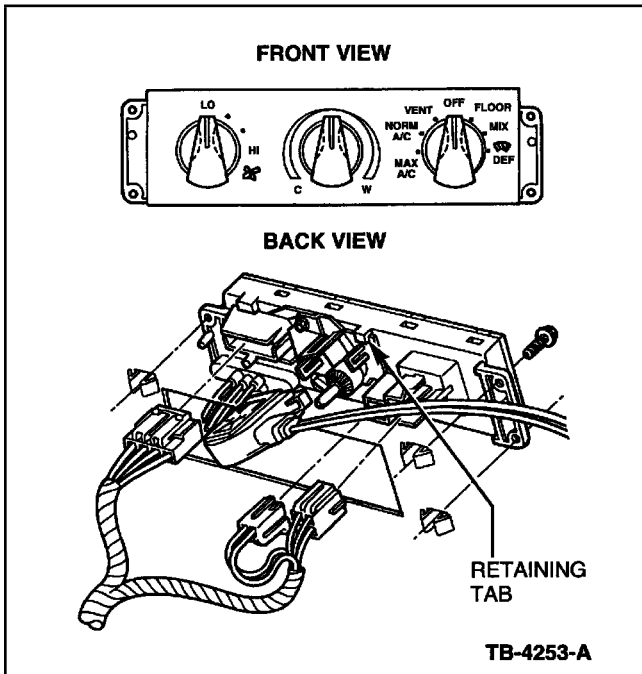

Figure 3 - Article 96-13-7
2. At the small end of the cable (control head), remove the temperature control bracket from the cable by releasing the three (3) snaps using Tool T94P-18532-A or a thin blade screwdriver to allow the cable to be pushed back through the instrument panel toward the control head. Refer to Figure 3.
8. Push the temperature control bracket onto the control assembly and turn it to catch under the retaining tab. Secure with the new screw previously saved. Refer to Figure 3.
10. Push the cable head onto the temperature control bracket (make sure gear pilot centering hole is lined up correctly) until the three (3) lock into position (you should hear a click of three (3) tabs). Refer to Figure 3.